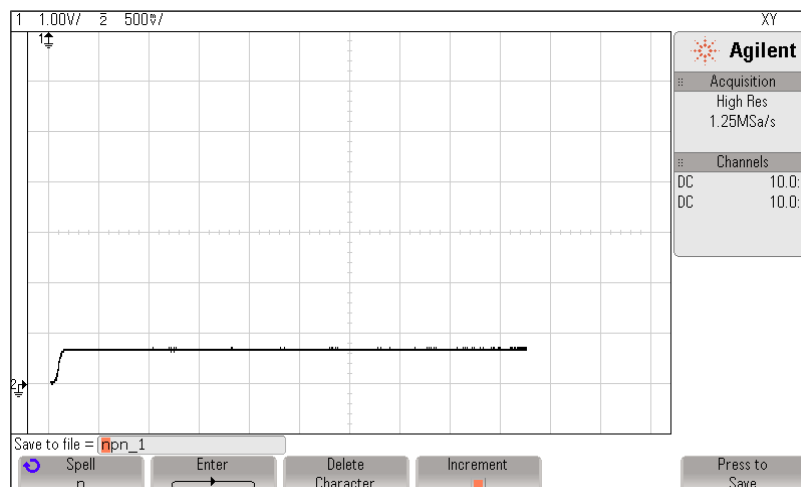

Figure 2. Curve for 20 $\mu$ A Base Current.
12. Adjust the power supply voltage so that 20 $\mu$ A flows into the base of the transistor. The display on the oscilloscope should be close to what is shown in Figure 2. A 2N3904 was used to produce all the figures in this section. A 2N3903 will produce similar curves.